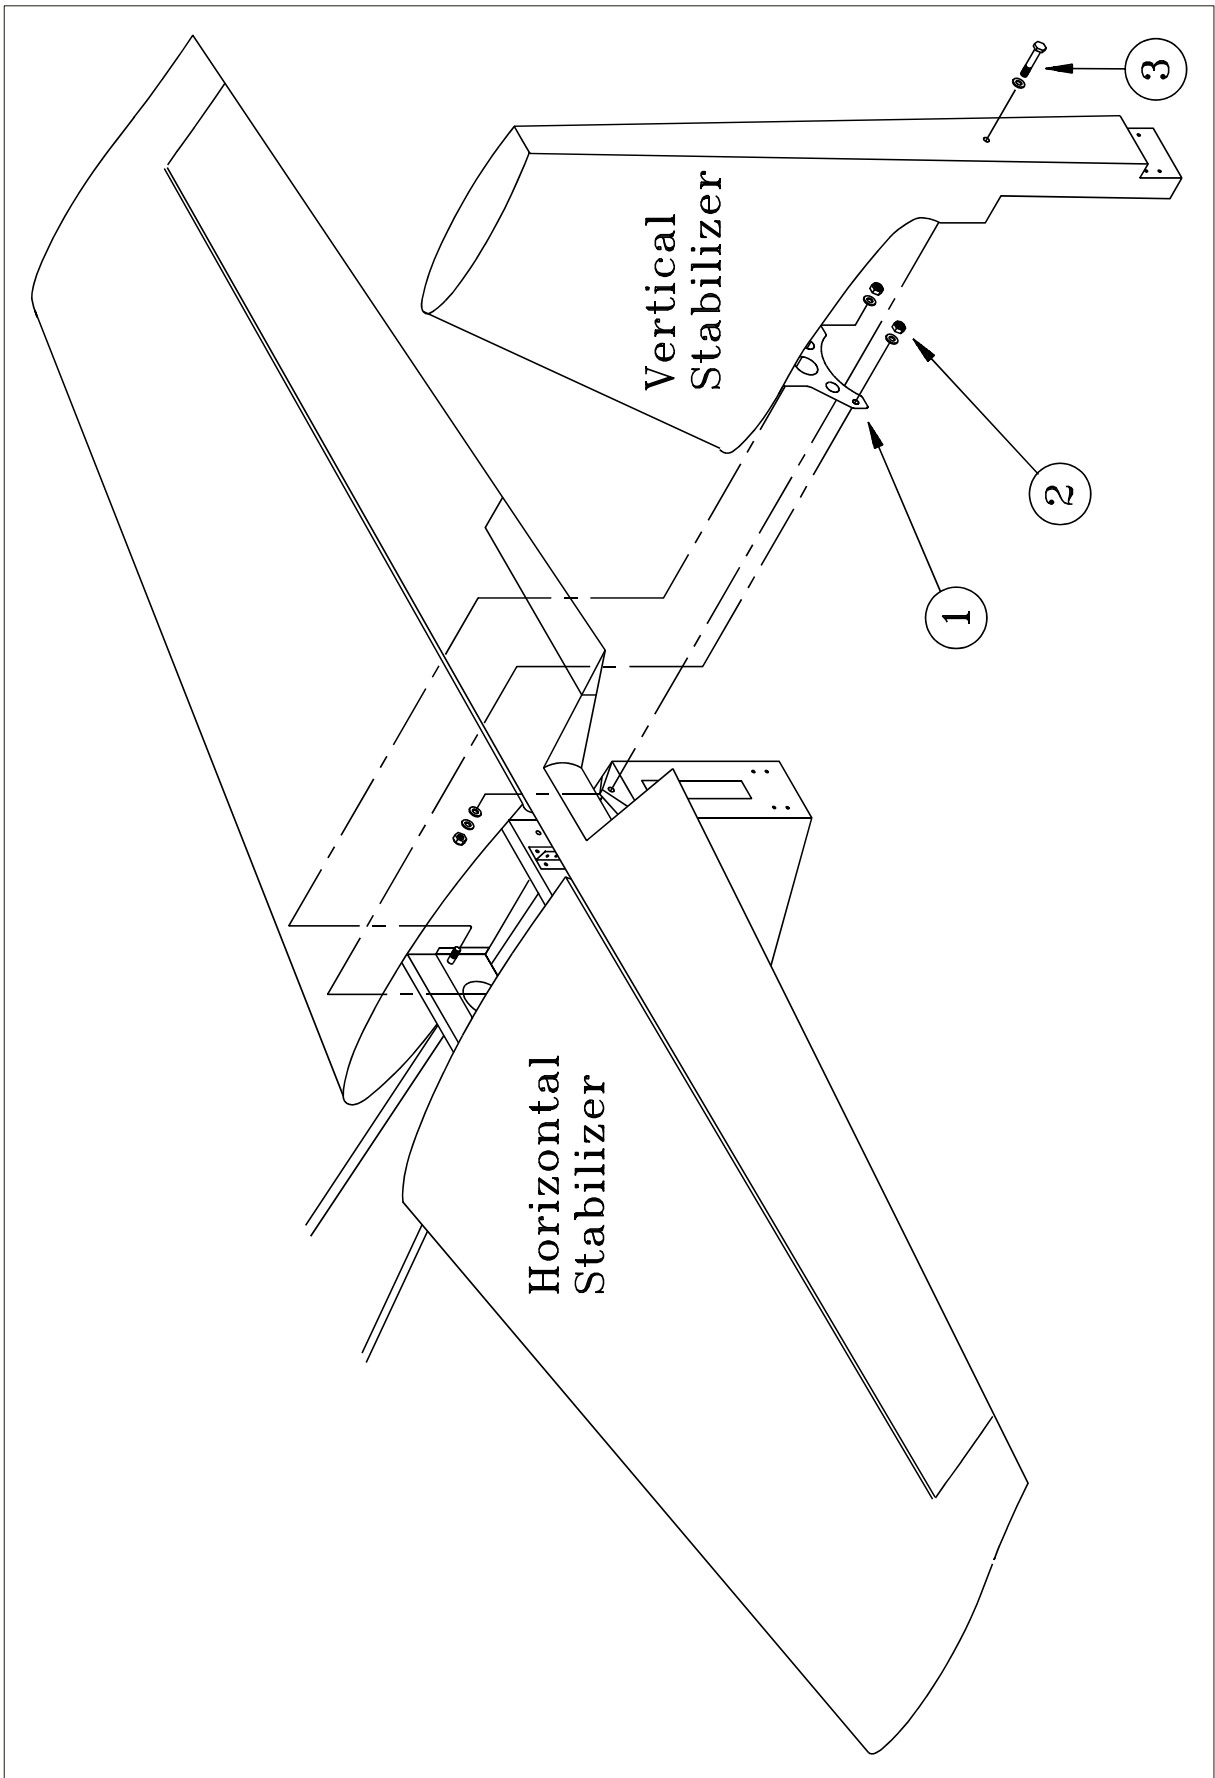

Figure 4
- 4 Remove the two stop nuts (2, figure 4) and washers of the front main bolts.
- 5 Remove the rear main bolt (3) with the washers and the stop nut.
- 2 Slide the auxiliary spar attachment sheet (1, figure 4) of the vertical stabilizer from the rear over the preinstalled horizontal stabilizer front spar bolts and install the washers and stop nuts (2).
- 3 Insert the bolt (3) to the main spar from rear to front. Use stop nuts and washers.